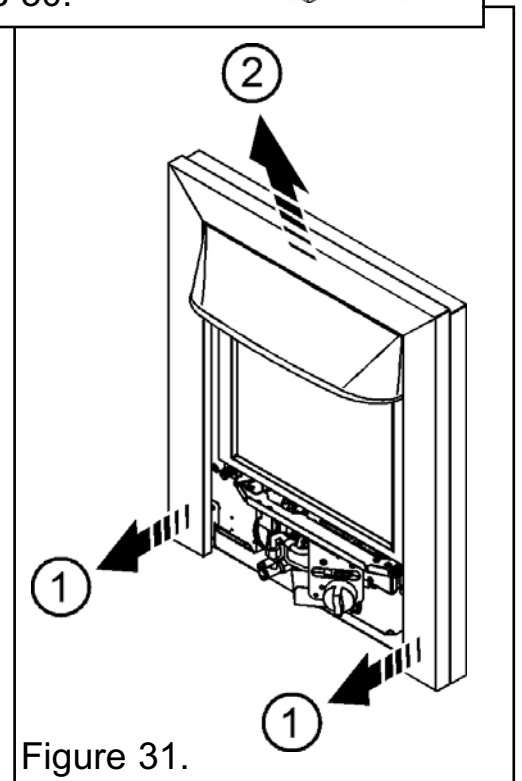

Figure 31.
4. Carefully lift the fascia upward to clear the upper support bracket on the convection box (See figure 31). Pull the fascia clear and place carefully aside.